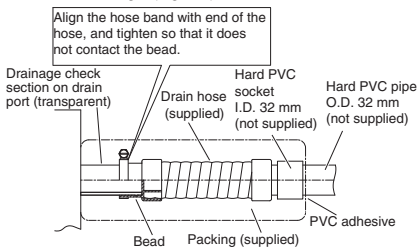

Fig. 3-9
- (1) Prepare standard hard PVC pipe (O.D. 32 mm) for the drain and use the supplied drain hose and hose band to prevent water leaks. The PVC pipe must be purchased separately. The unit's transparent drain port allows you to check drainage. (Fig. 3-9)
- Insert the drain pipe until it contacts the socket, as shown in Fig. 3-9, then secure it tightly with the hose band.
- Tighten the hose clamps so their locking nuts face upward. (Fig. 3-9)